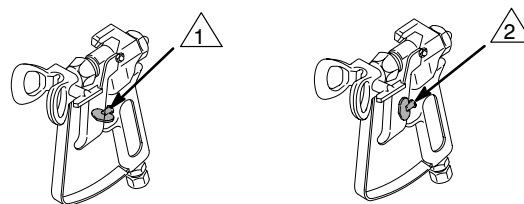

Fig. 3
2. Close pressure drain valve (118).
5. Lower pressure setting by turning pressure adjusting knob (B) all the way counterclockwise.
6. Disengage gun safety latch. See Fig. 3.